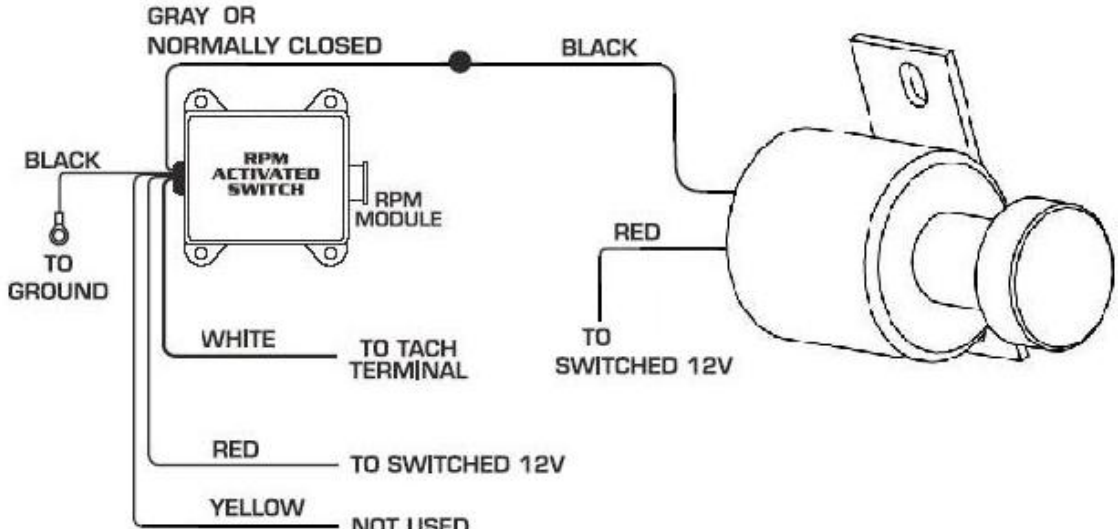
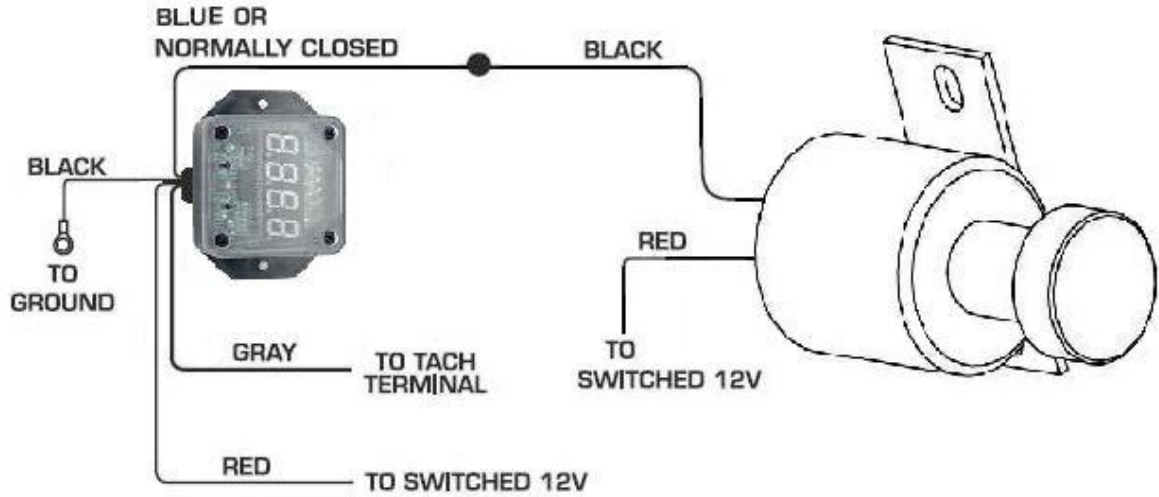

FIGURE 2
FIGURE 3
- 2b. If you intend to use an RPM activated switch, refer to Figure 2 & Figure 3 on the next page.
- 2b. When utilizing an RPM activated switch, refer to the switch manufacturers' installation instructions for solenoid activation in conjunction with Figure 2 on the next page.